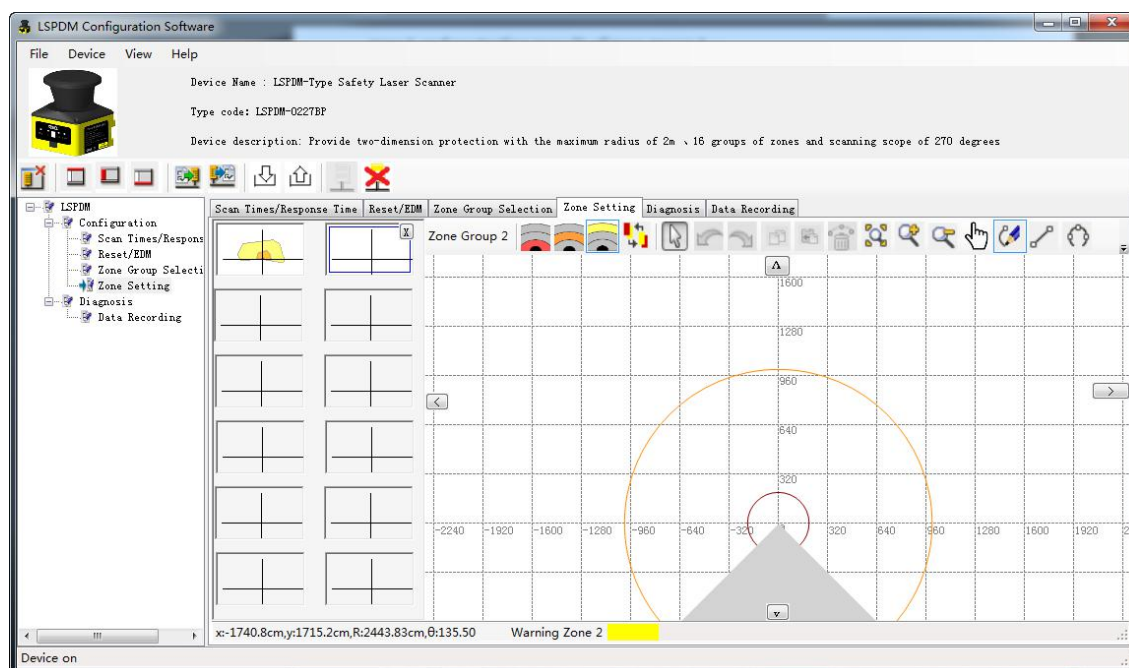

Fig.3.3.7 Activate zone group 2
Step ①: Click the corresponding Small View of Zone Group 2(the second from left to right in the upmost line), and the small view of zone group 2 will show a blue border after being selected, as shown in Fig. 3.3.7.